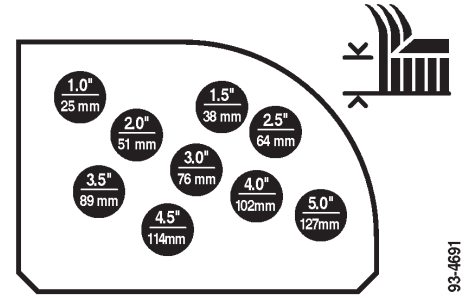

Figure 10
5. Mount height-of-cut chains to corresponding height-of-cut hole with clevis pin and hairpin cotter (Fig. 10).